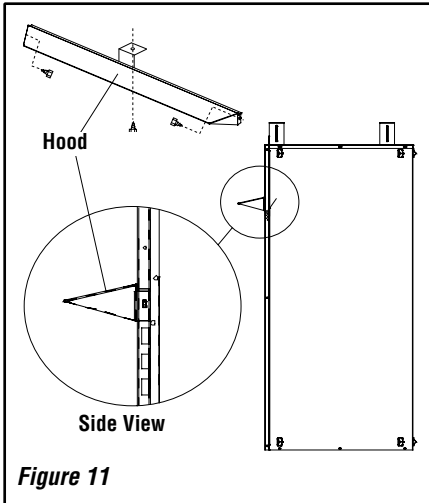

Figure 11
**NOTE:** A hood comes standard and is required for models VRT2536WS and VRT2542WS. The factory-supplied hood must be installed on the firebox for safe operation for models VRT2536WS and VRT2542WS in all installations. See Figure 11.
**Step 2.** Align the hood with the holes in the side frames as shown in Figure 11. Install three screws as shown in Figure 11. Make sure hood is level and secure.